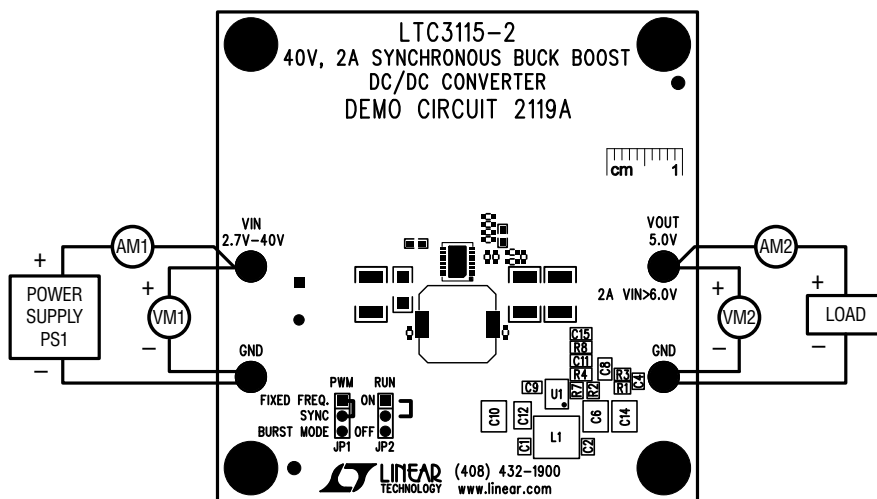

Figure 4. Proper Measurement Equipment Setup
Using short twisted pair leads for any power connections and with all loads and power supplies off, refer to Figure 4 for the proper measurement and equipment setup. The Battery/Power Supply (PS1) should not be connected to the circuit until told to do so in the procedure below.
2. With power OFF connect the power supply (PS1) as shown in Figure 4. If accurate current measurements are desired (for efficiency calculation for example) then connect an ammeter in series with the supply as shown. The ammeter is not required however.